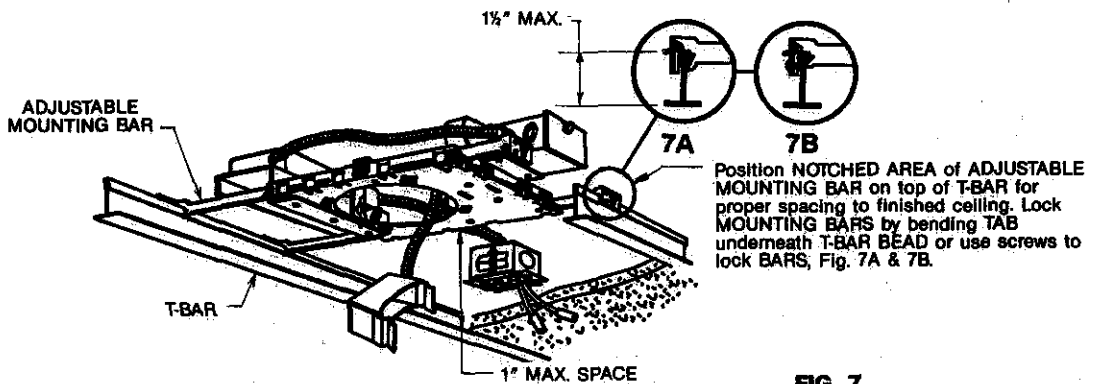

FIG. 7
3. For suspended ceilings, make certain that bottom of MOUNTING FRAME is no higher than 1" above ceiling line, Fig. 7.